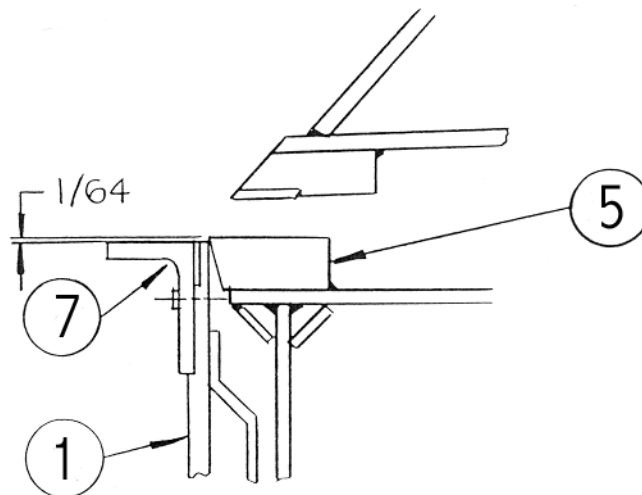
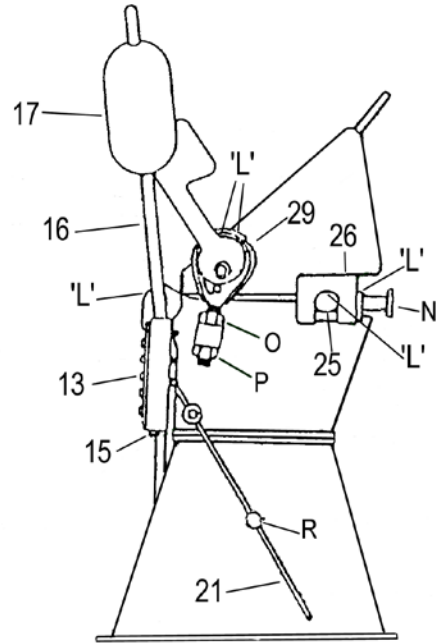

Fig. 7
Fig. 2
To level machine – loosen clamp nuts, Items O & P (fig. 2) so top leaf sets loosely upon the bottom. Check the gap between the top and bottom at each end of machine. It should be fairly equal. If one end has less daylight (gap), shim under the rear of the leg at the same end until daylight is equal.
When clamping and unclamping the top leaf - if the top leaf holder, Item 26 (fig. 2) lifts off of the top adjust slide nut, Item 25 (fig. 2) place a shim under the rear of the leg on same side that is lifting.
TO ADJUST - unclamp top leaf slightly. Adjust top leaf by turning adj. screw handle N (fig. 2).
TO ADJUST - loosen link adjust nuts, Items O & P (fig. 2). Clamp top leaf in place. Tighten link nut (P) until firm pressure is applied to material. Snug link nut (O).
Counterweight, Item 17 (fig. 2) can be raised or lowered on counterweight rod, Item 16 (fig. 2). The rod can also be rotated in the hinge socket to counterbalance the bending leaf.
Adjustable gauge stop, Item R (fig. 2) can be positioned at any point along the stop rod, Item 21 (fig. 2) to limit travel of the bending leaf.
ENDS - If the sheet bends over further on one end than the other, set the top leaf back on the end where the sheet is over bending. **TO ADJUST** - Unclamp top leaf slightly. Turn top adjust handle, Item N (fig. 2) clockwise on side that is over bending.
When the bending leaf is in the down position, the edge of the insert/angle bar should be 1/64" below the bottom bar, Item 5 (fig. 7) on each end of the machine. **TO ADJUST** - Loosen the hinge mounting bolts, Item 13 (fig. 2). Raise or lower the bending leaf, Item 1 (fig. 7) using stop bolt, Item 15 (fig. 2) located at the bottom of the hinge. Tighten the hinge mounting bolts.
There are five lubrication points marked with [L] depicted in the Right Side View (fig. 2).
Use a general purpose grease to lubricate between the top leaf holder, Item 26 (fig. 2) and the top adjust slide nut, Item 25 (fig.2) once a week.